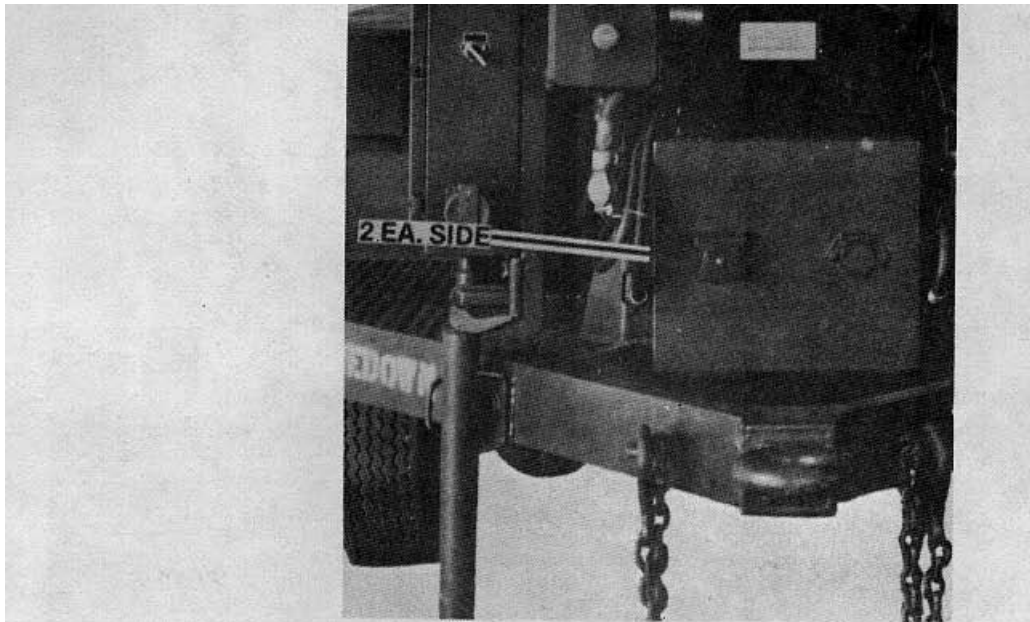

Figure 63. NOSE BOX MOUNTING HARDWARE
a. Removal Refer to Fig. 63 & 64 and remove the nose box.
c. Installation. Refer to Fig 63 & 64 and install the nose box.